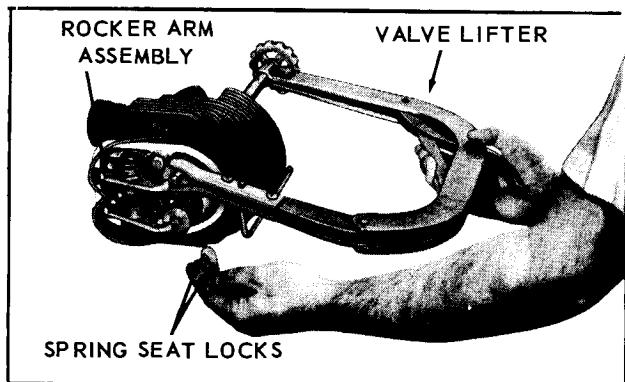

Fig. 44
#### VALVES (Fig. 44)
**Valve grinding** should be done by an authorized service dealer, since he has the necessary equipment and experience to do a good job. To remove valves; use a standard automotive valve lifter as illustrated in Fig. 44, and remove spring seat locks. Release valve lifter and take out valve, spring and exhaust rotator or spring seat.
#### ROCKER ARM ASSEMBLY (Fig. 44)
Very little wear will occur to the rocker arms as long as they are adequately lubricated. If replacement is necessary, remove the complete rocker arm bracket assembly, Fig. 44, from cylinder head. Take out shaft setscrew from bottom of bracket with a 1/8" Allen